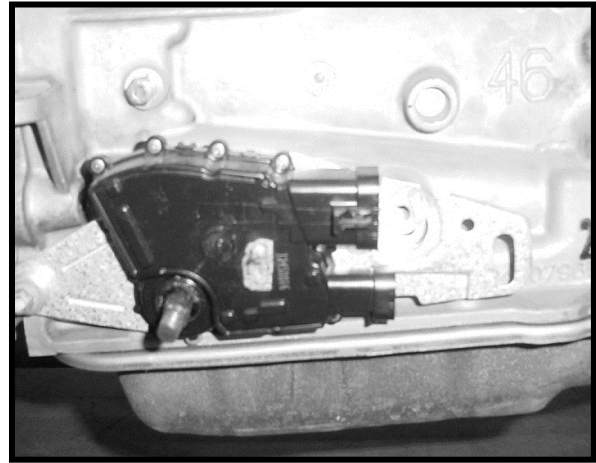

Figure 19 Park/Neutral Position Switch.
- The PNP can be found on the driver side of the transmission, as seen in **Figure 19**.